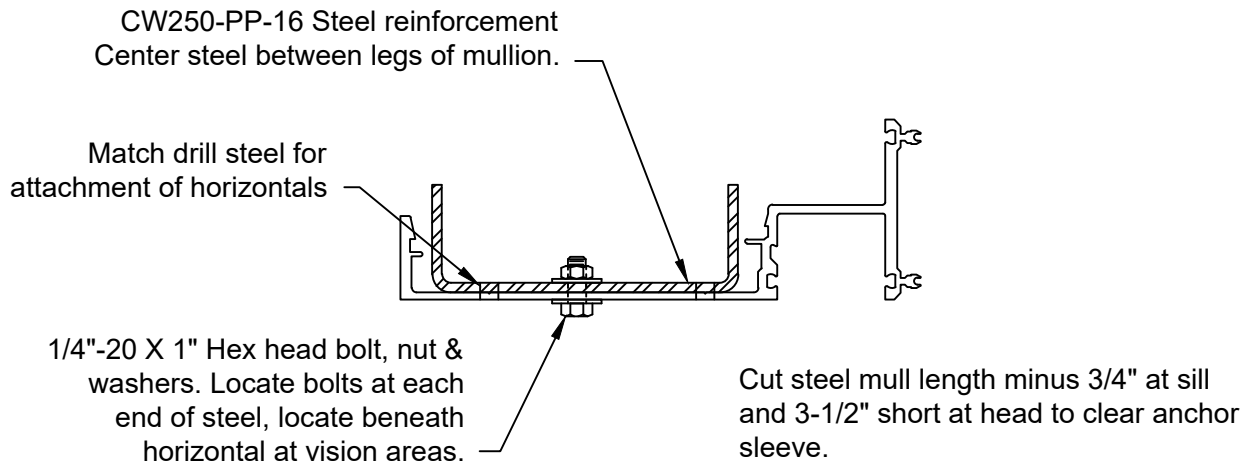

FIGURE 10
- 2.3 If steel reinforcing is required, install now. SEE FIGURE 10, page 12
- 2.8 Isolator clips for face cap installation may be installed in the shop or field. If installed in shop care must be taken in transporting units not to break or disengage clips from mullion. Clips are installed by starting one end and rotating into position. Clips will snap over clip stem. Clip tool, part # ICW-FP-74 may be used to speed up installation process. GP-141 baffle clips must be installed over weep holes at all intermediate horizontals. ICW-12 clips are to be installed at 12" on center and staggered to prevent bowing of face cap at clips. SEE FIGURE 10, page 12.